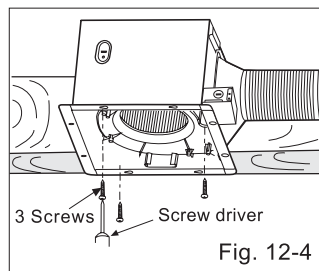
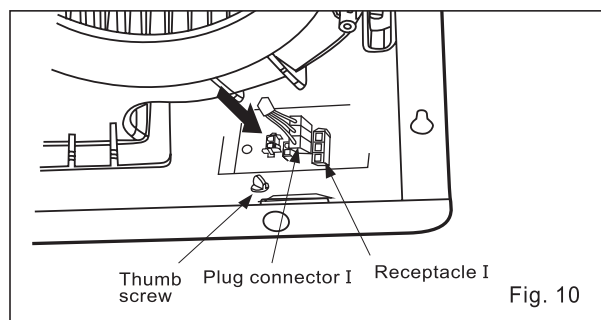

Fig. 12-4
Fig. 10
6. Secure the fan body to adaptor by using thumb screw and plug connector to receptacle(Fig. 10)
5. Secure the adaptor to fan body by using thumb screw. (Fig. 10)
8. Secure the blower. (Fig. 12-4) and plug connector to receptacle (Fig. 10)